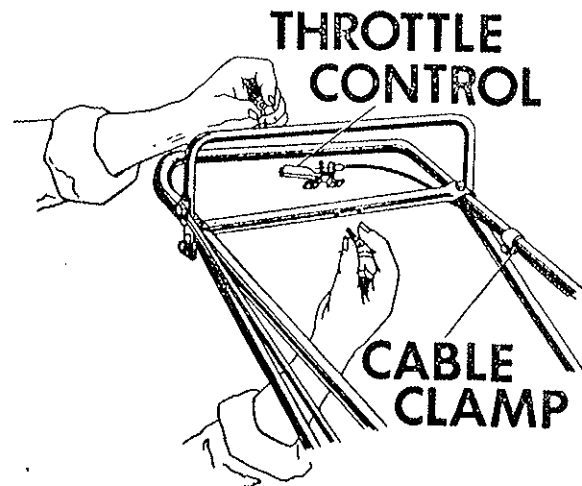

Fig. 2
d. Uncoil throttle and place on outside of frame. Secure to handle with clamps; Item 24 - Figure 6, in the approximate position shown. Next, secure lever assembly on throttle to cross bar on handle, as shown in Figure 2 using two oval head screws and HexLocknuts Items 5 and 7 Figure 6.